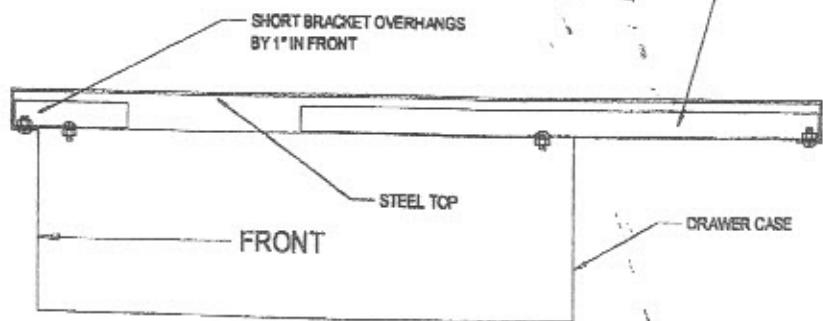
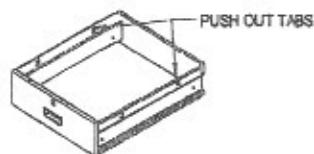

FIG. 7A
FIG. 7B
- For assembly to a steel top, bolt two (2) short brackets to the top front of the case and two (2) long brackets to the rear of the case using four (4) 1/4-20x1/2" nuts and bolts. Secure the assembly to the top's flanges with four (4) additional nuts and bolts. (Figure 7A)
- For assembly to non-steel top, mount case directly on workbench using four (4) #14x3/4" wood screws.
- Assemble drawer to case, and when drawer is $\frac{3}{4}$ open, push out one (1) tab on each end of the drawer to create stops. (Figure 7B)